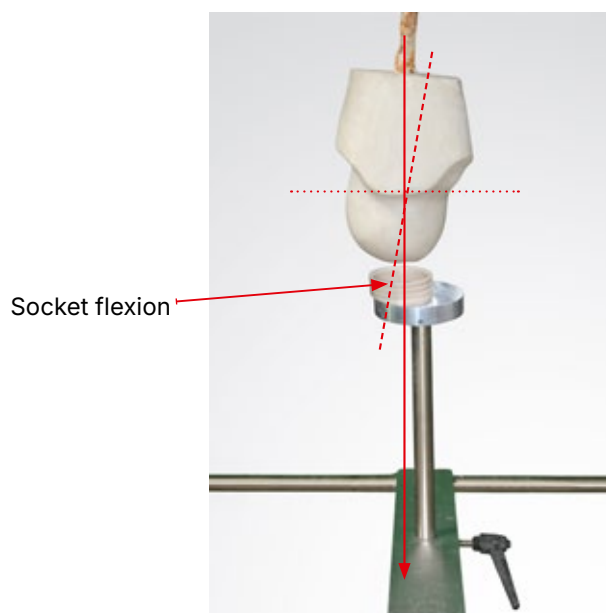

Fig 32
(D) Short stumps (Fig 32 and 33)